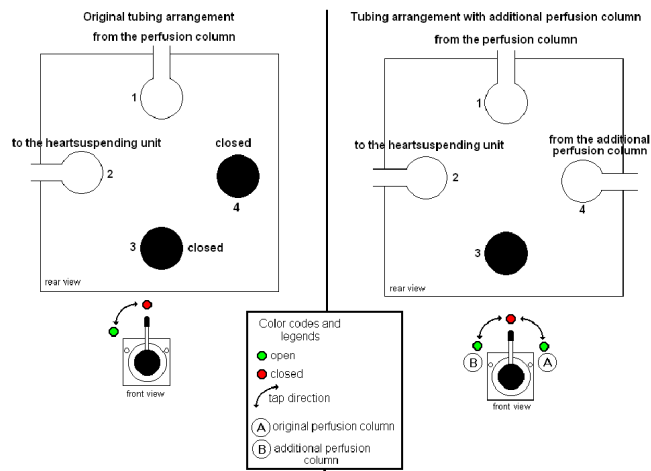

Fig. 70–Positions of the valve tap.
7. The positions on the valve tap (Fig. 70) can be placed to close flow to the aortic cannula (center), open flow from the first column (left), or open flow from the second column (right). The second column is used primarily to perfuse the heart at a different pressure by setting its overflow tube to a different height.